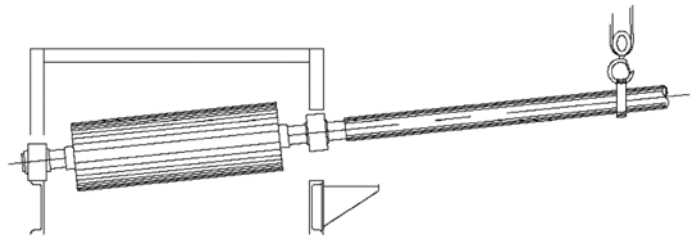

Fig. 2
2. Slide pipes onto rotor drive side and tail pulley shaft ends. (See Fig 2.)
4. Lifting the tail pulley and rotor with the pipes, slide the belt into place. See Fig 2.